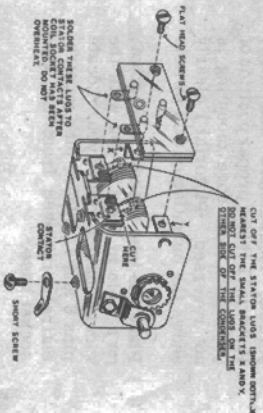

Figure 3
- (1) Study Figure 3 and cut off the two stator lugs indicated. These lugs (shown dotted) are nearest the small brackets which are riveted to the condenser frame.
- (2) Mount the coil socket on the tuning condenser frame as shown in Figure 3. Use two 6-32 flat head screws.
- (3) Solder the two outside coil socket lugs to the nearby stator contact as shown in Figure 3.
- (4) Using a short 6-32 screw and solder lug, place the solder lug toward the top of the variable condenser, or in other words, nearest the coil socket between the plates of the condenser. A convenient self-tapped hole will be found in this position.
- (5) Place a length of bare wire between solder lug and unused coil socket prong (S).
- (6) Mount another solder lug on the tuning condenser frame as shown in Figure 3. Use a short 6-32 screw.